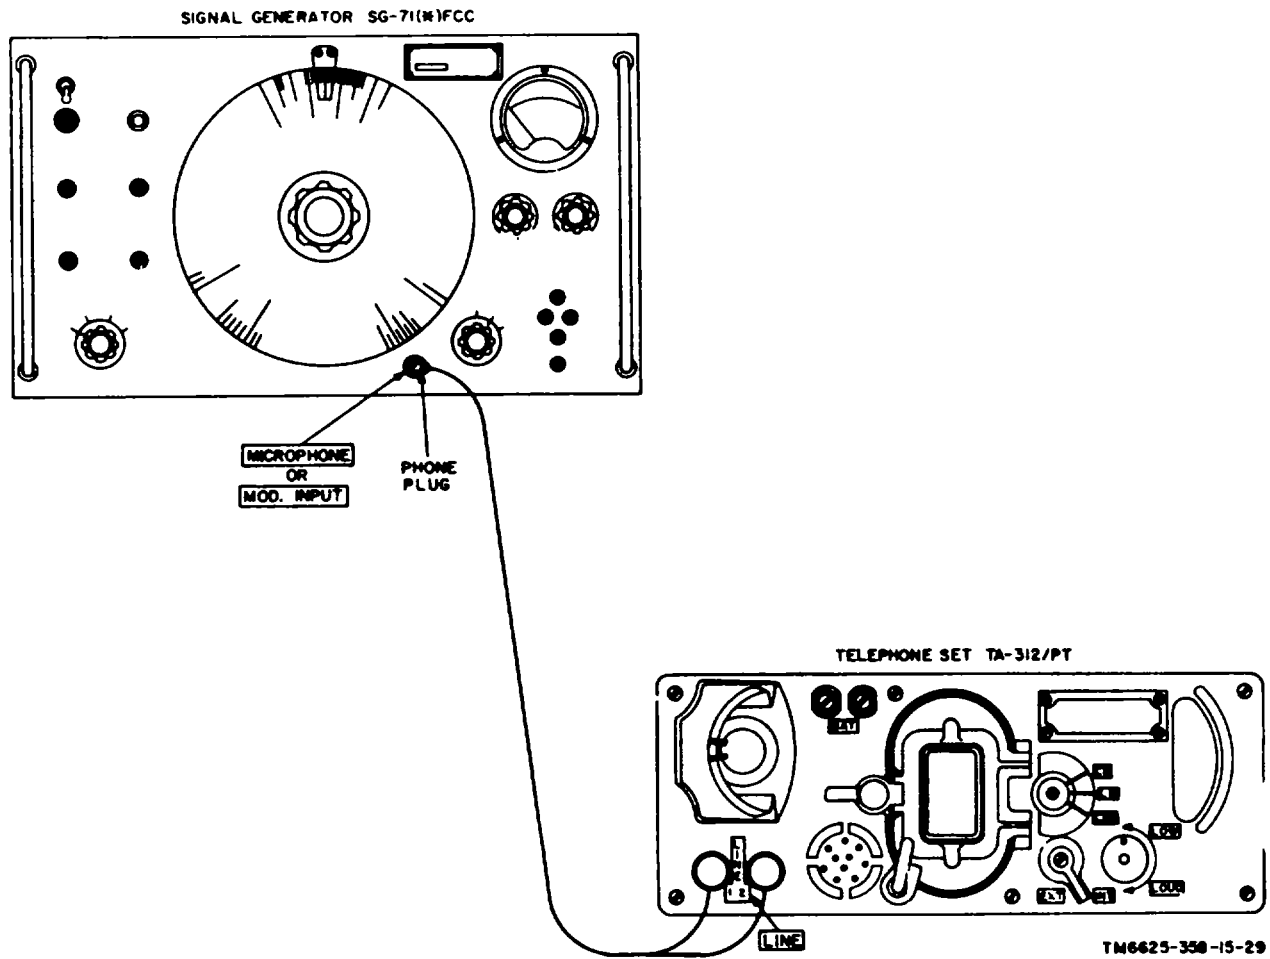

Figure 8-5. Voice modulation, test setup.
- b. *Test Connection and Conditions.* Connect the equipment as shown in figure 8-5. Also connect the APN/USM-281A vertical input terminals to the SG-71( )/FCC BAL OUTPUT terminals.